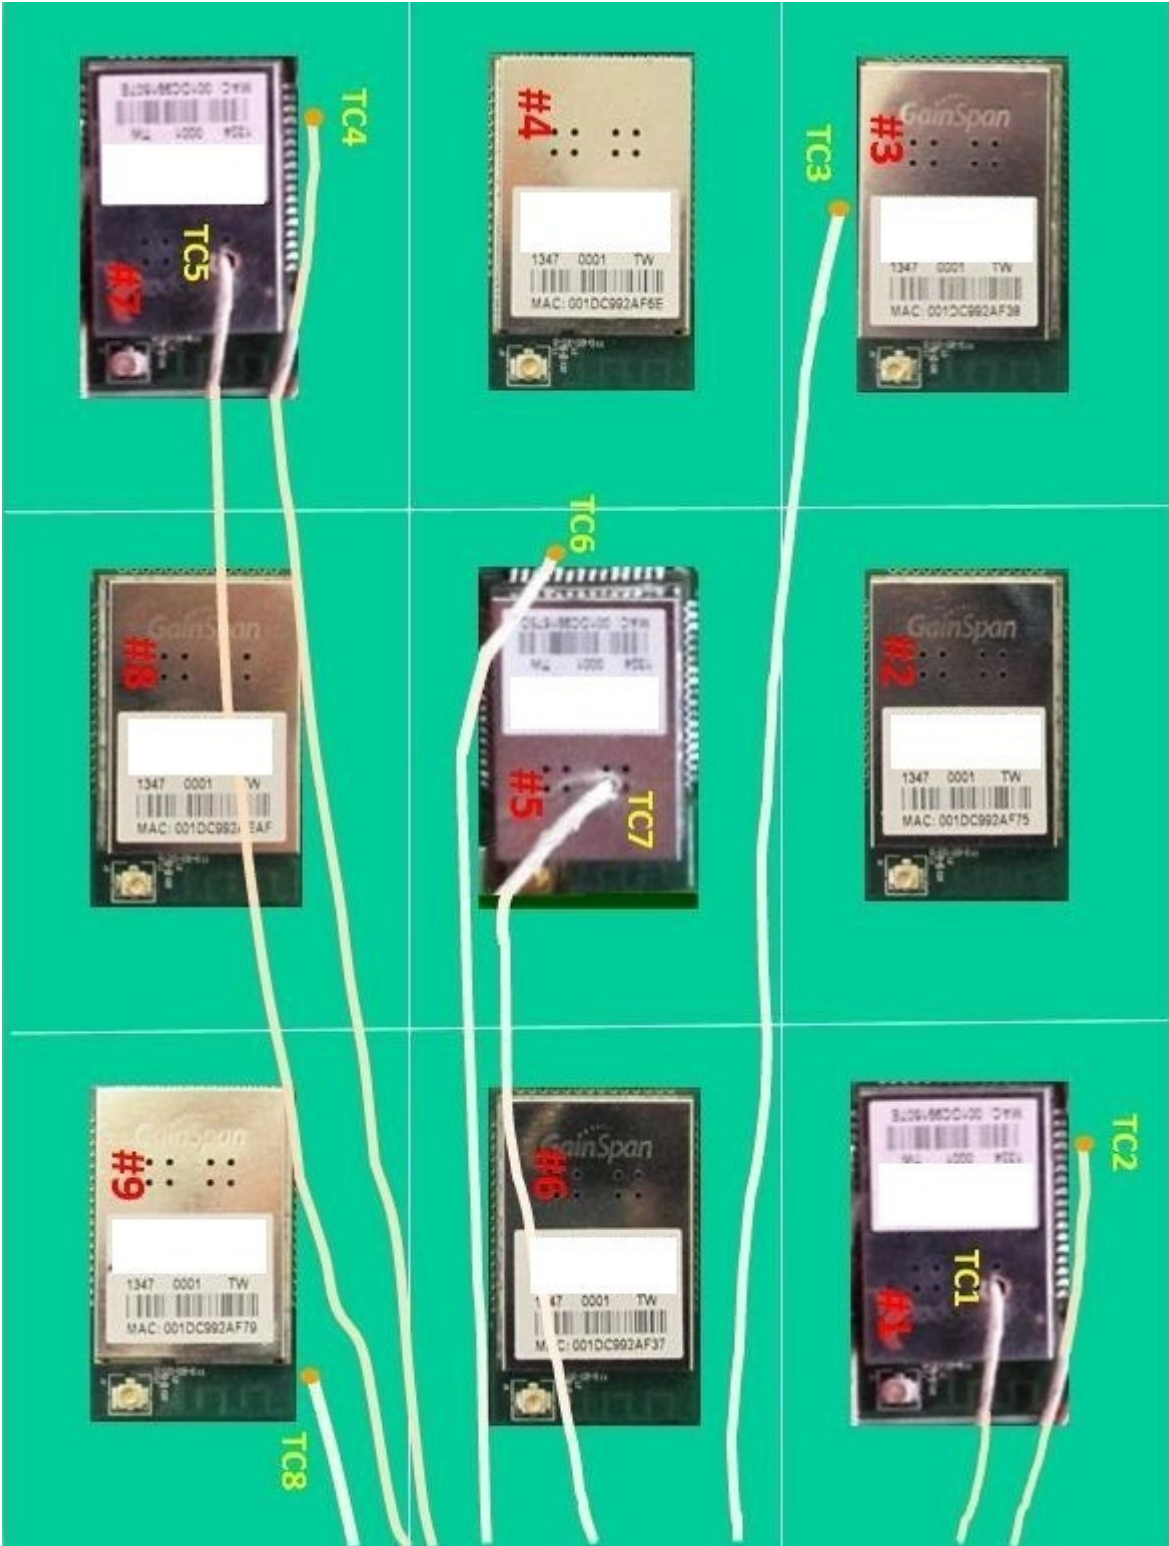

Fig. 7 Thermocouple Locations
3. Temperature uniformity inside the IR reflow oven must be tightly controlled and multiple thermocouples should be used. An example of possible thermocouple locations is given in Fig. 7. The locations should also include multiple points inside the module RF shield (for example TC1, TC5, and TC7 in Fig. 7). The temperature profile of all thermocouples must meet the requirements Tab. 15, page 50.